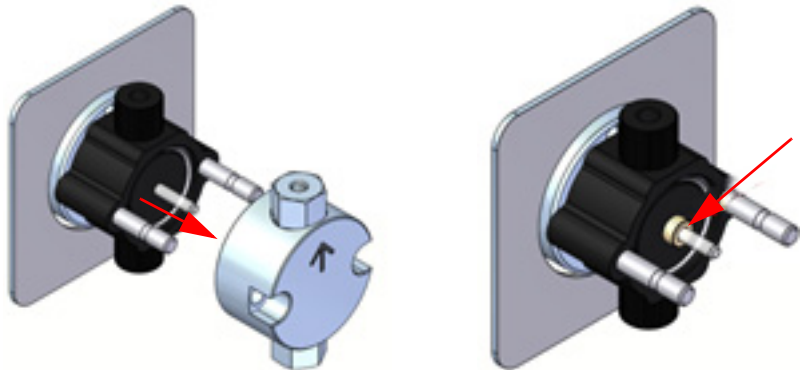

Figure 6-10 Removing the pump head
9. Carefully pull the pump head forward and off the guide pins. Pull straight and slowly to prevent damage to the piston (Figure 6-10).